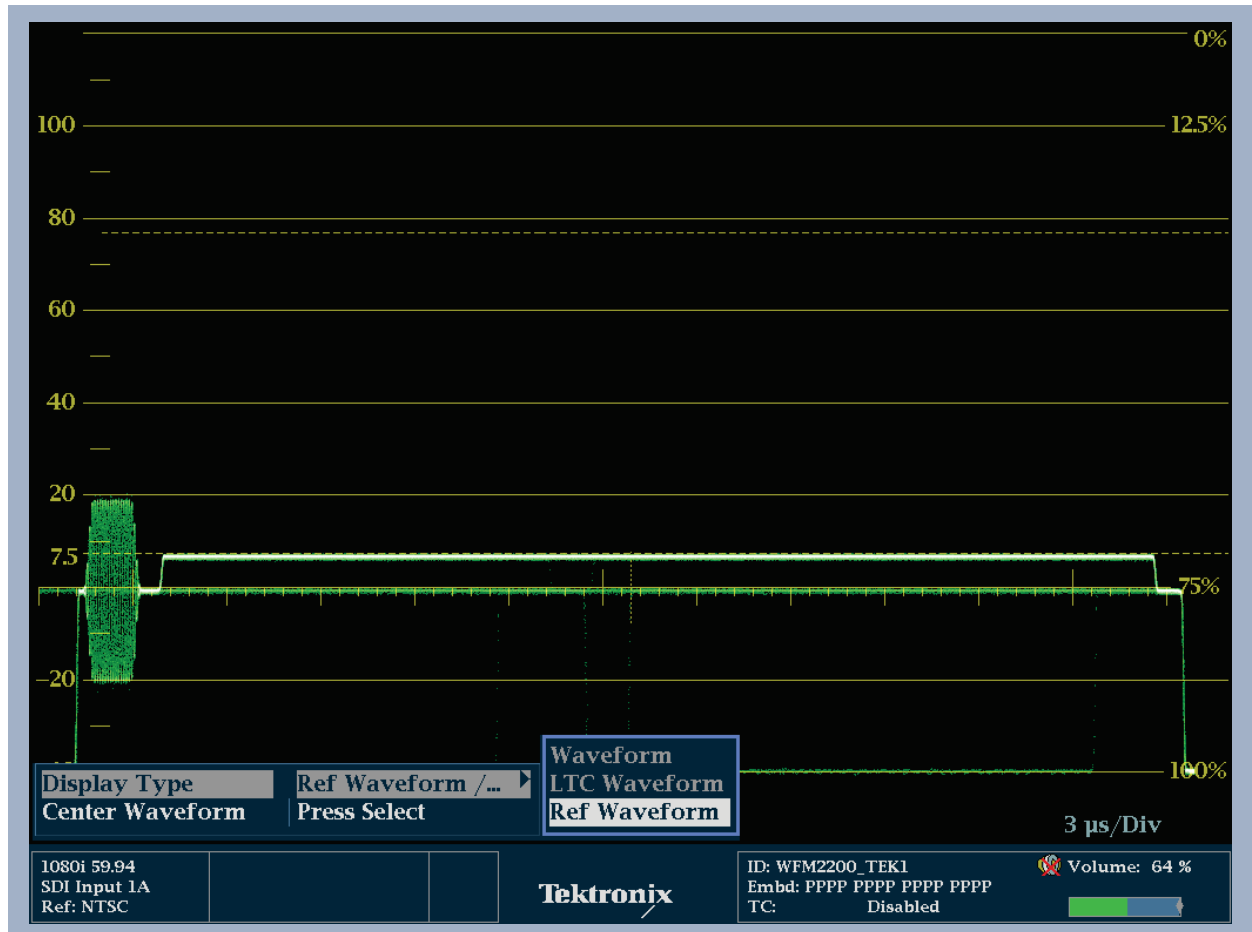

Figure 7. External Reference waveform display.
1. Push and hold the **WFM** button to display the menu as shown in Figure 7.